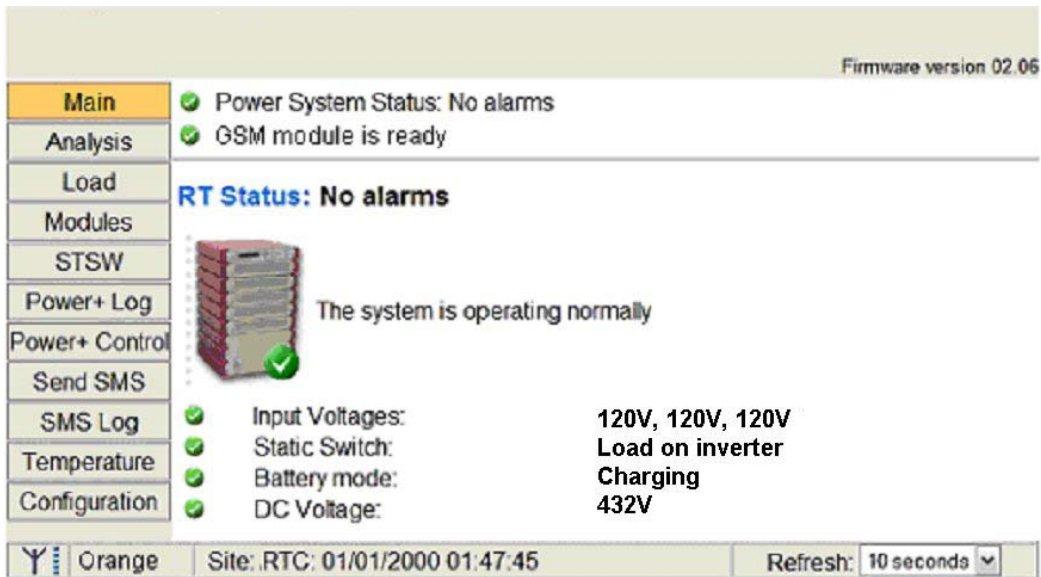

Figure 116: Main Screen of the Power+ Web interface
- 4 On a computer terminal that has connectivity to the Power+ IP address, open a Web browser and enter the Power+ IP address in the URL bar. For example: `//192.102.2.130` (without quotation marks), and press Enter. You should see the Web interface main screen (see Figure 116 below).
The Main Screen (see Figure 116 above) is the first screen you see when connecting to the GMaCi software.
The Main Menu of Power+'s built-in remote management software consists of a column of option buttons on the left side of the Main Screen (see Figure 116 on page 75).